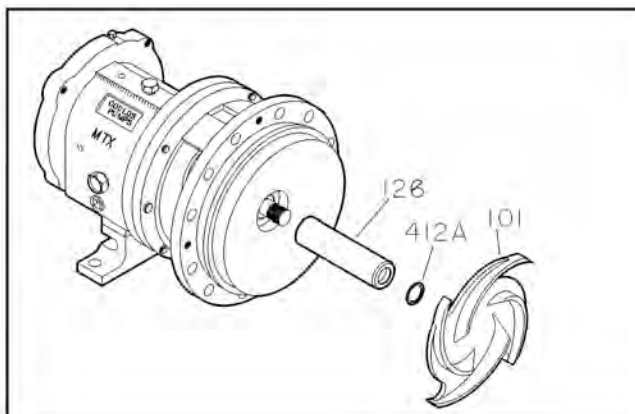

Figure 71:
34. Install shaft sleeve (126) (Fig. 71).